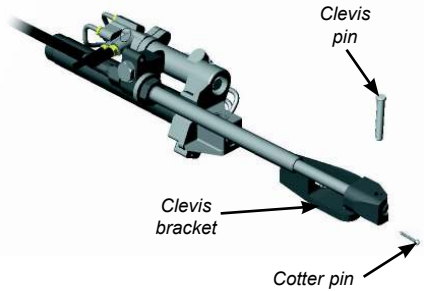

Fig B25 - Steering cylinder in mid stroke position
- Use manual helm to set the steering cylinder to the mid stroke position as shown in Fig B25 (it may be necessary to run the engine to do this).